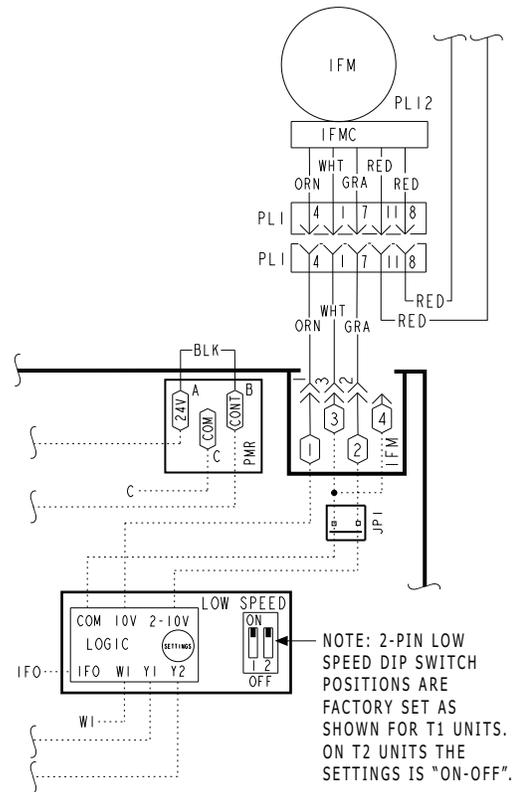

Fig. 10 – Supply Fan Control Wiring Diagram
8. Check for proper motor control voltage signal of 9.7 vdc to 10.3 vdc at IFM-1 and IFM-3 on Unit Control Board (UCB). (See Fig. 10.)